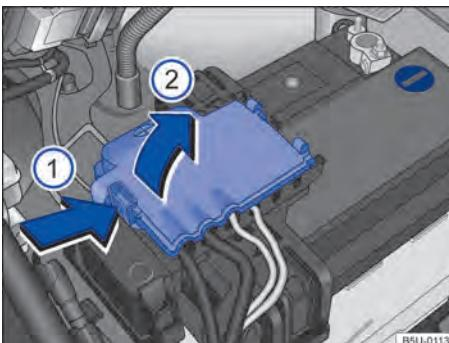

Fig. 183 Engine compartment: access to the positive battery terminal.
- Open the positive terminal cover. To open, press the lock in the direction of the arrow → Fig. 183 (1) and move the cover to the side, in the direction of the arrow (2).